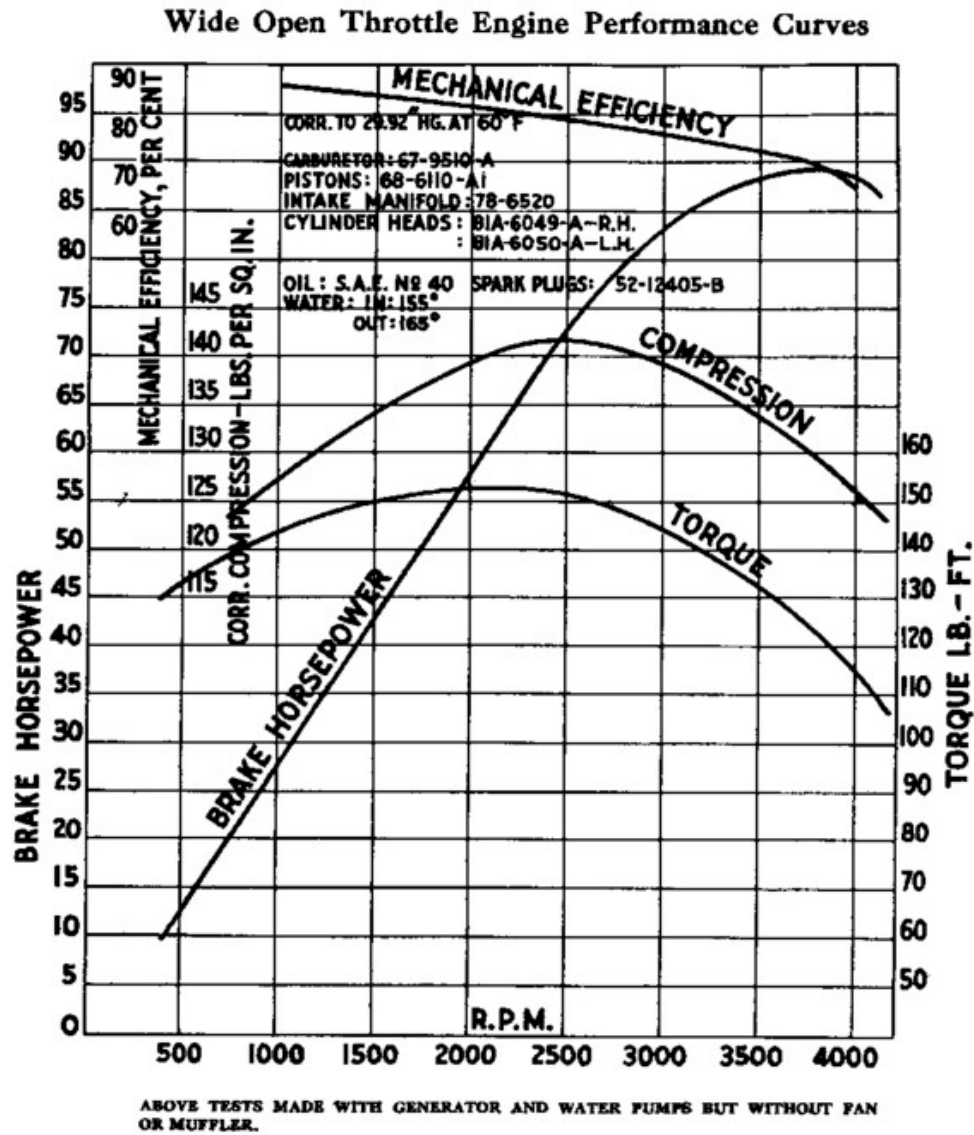

Figure 1: Basic Flathead V-8, for simple model. Definitely not a modern engine.
- 1) Use a 2nd order polynomial for the torque curve. Fit a curve to the data shown in Figure 1. This engine is for an example to be used for fitting a torque curve, not to represent a